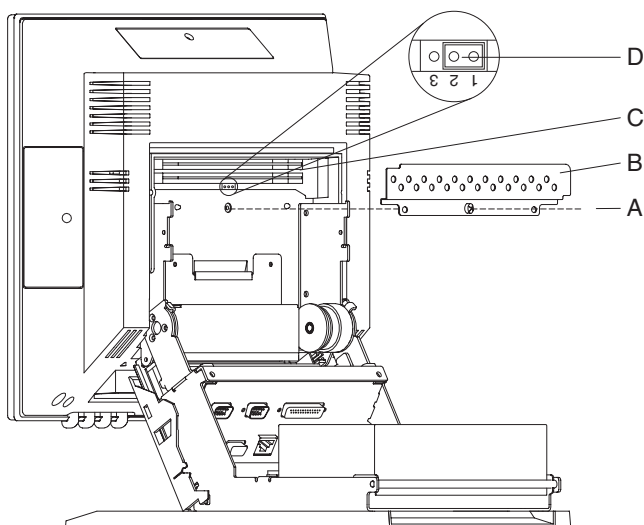

Figure 146. CMOS reset jumper JP4
1. Referring to Figure 146, loosen the captive screw **A** from memory cover **B** located on the back of the display. Slip the cover off the two alignment pins as described in “Memory module – removing and replacing” on page 78.